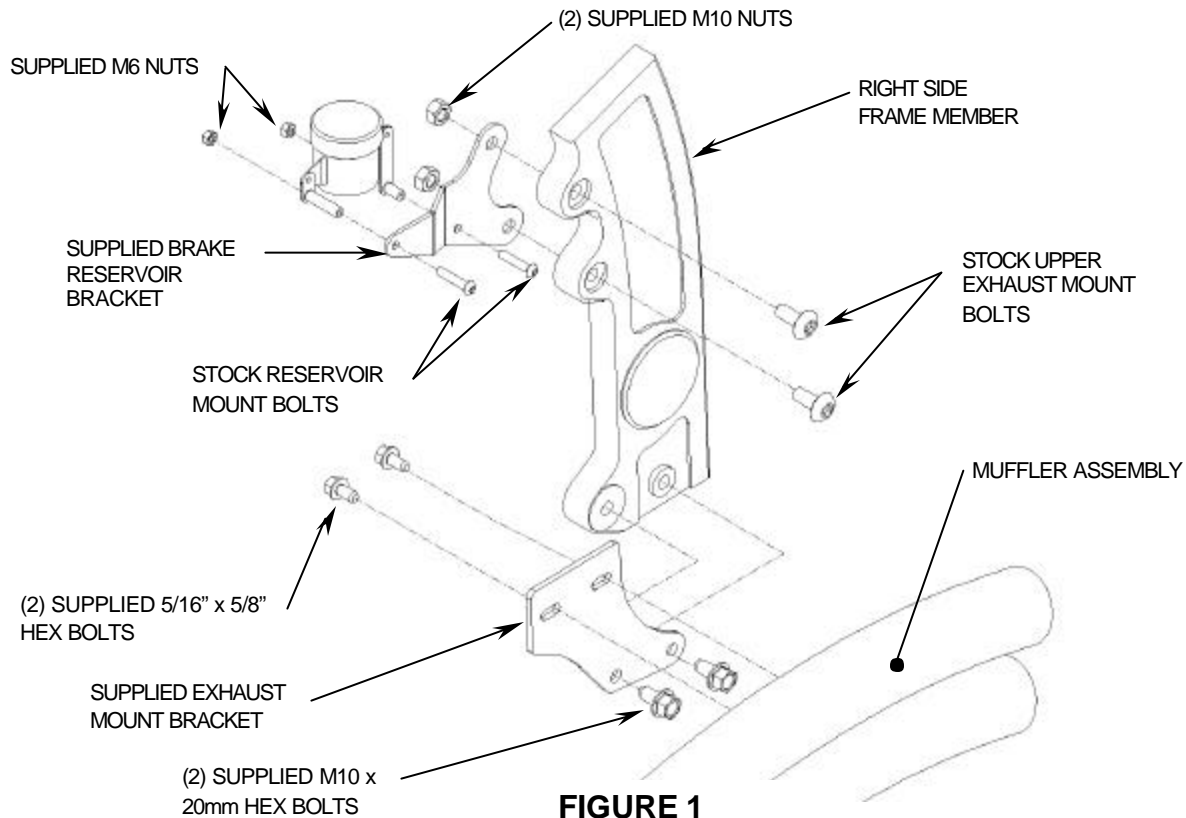

FIGURE 1
2. Remove the stock upper exhaust bracket by first removing the (2) bolts that hold the rear brake reservoir to the stock bracket then remove the (2) M10 buttonhead bolts from where the stock bracket contacts the frame. Set the three bolts aside for future reassembly, - one bolt will remain in frame.
3. Install the supplied brake reservoir bracket where the stock upper exhaust bracket was located using the stock M10 bolts and the supplied M10 nuts. See Figure 1 for bracket orientation.
4. Mount the rear brake reservoir between the bracket and wheel using the stock bolts and supplied M6 nuts. (See Figure 1.)
5. Install the supplied exhaust mount to the motorcycle using the supplied M10 x 20mm bolts. **DO NOT TIGHTEN** at this time. (See Figure 1.)
8. Slide the muffler assembly onto the headpipes by tapping on the headpipes with your hand as you push the mufflers forward making sure the assembly slides as far forward as possible. Bolt muffler assembly to supplied exhaust mount using the (2) supplied 5/16" hex flange bolts. **DO NOT TIGHTEN** at this time. (See Figure 1.)